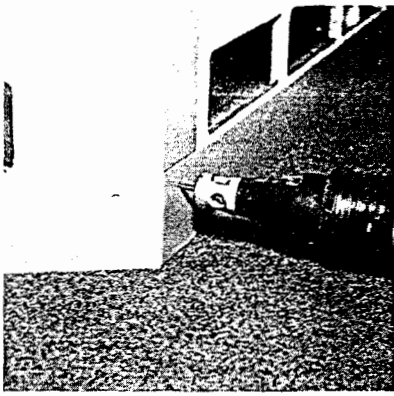

Fig. 22
**NOTE:** The shell will go together easier if you start at the left front corner piece (Fig. 20) and work your way clockwise to the right front corner piece (Fig. 21). Start by driving a screw into the right side of each and every corner piece at the ceiling. Then go back and drive a screw into the left side of each and every corner piece at the ceiling. Repeat the same process for the floor (Fig. 22). This method makes it easier to line up the corner pieces with the apexes of the floor and ceiling (Fig. 13).
**IMPORTANT:** The goal is to create a tight fit both at the ceiling and at the floor. In other words, you want to sandwich the panels between the ceiling and floor. This can be accomplished in a couple of ways. If the floor beneath the unit is level, the inside man simply applies pressure with the heel of his foot to the bottom of the corner piece (Fig. 24). The outside man drives the screw into the corner piece (Fig. 22). Remember to make certain that the corner piece lines up with the framework.